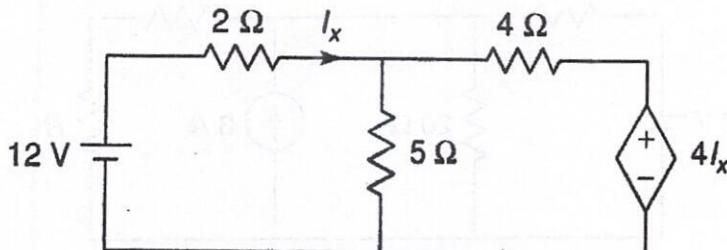

Fig.1
- (b) Determine the current through  $5\Omega$  resistor in the circuit of Fig. 1 using Thevenin's Theorem.